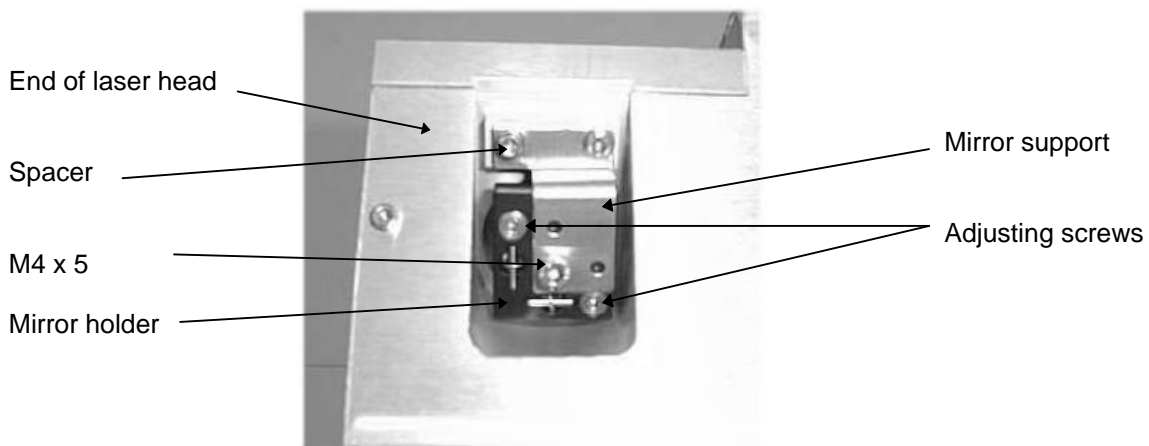

Fig. 34: 45° HR mirror (Mirror 4)
The 45° HR mirror (Mirror 4) is located at the end of the laser head on the right-hand side between laser head and display. It is fixed to a mirror holder (see Fig. 34) that is screwed to the end of the laser head through a mirror support. A spacer is arranged between angular support and end of laser head.
2. Unscrew mirror support with mirror holder from coupling block (at the two screws visible on top in Fig. 34).